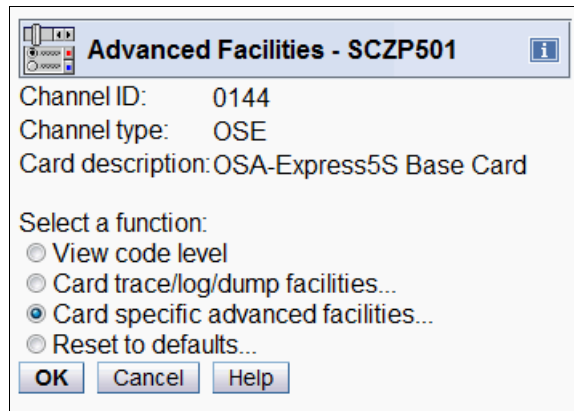

Figure 14-3 OSA/SF on HMC: Card specific advanced facilities selection
3. Select **Card specific advanced facilities** and click **OK** (Figure 14-3).